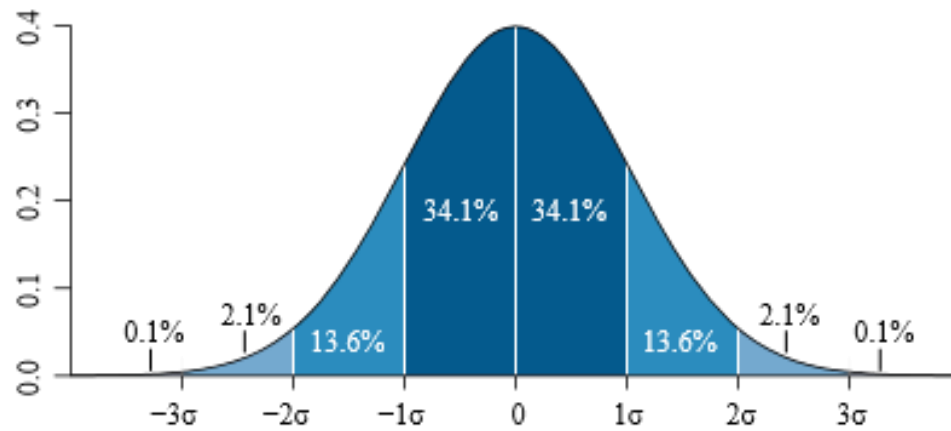
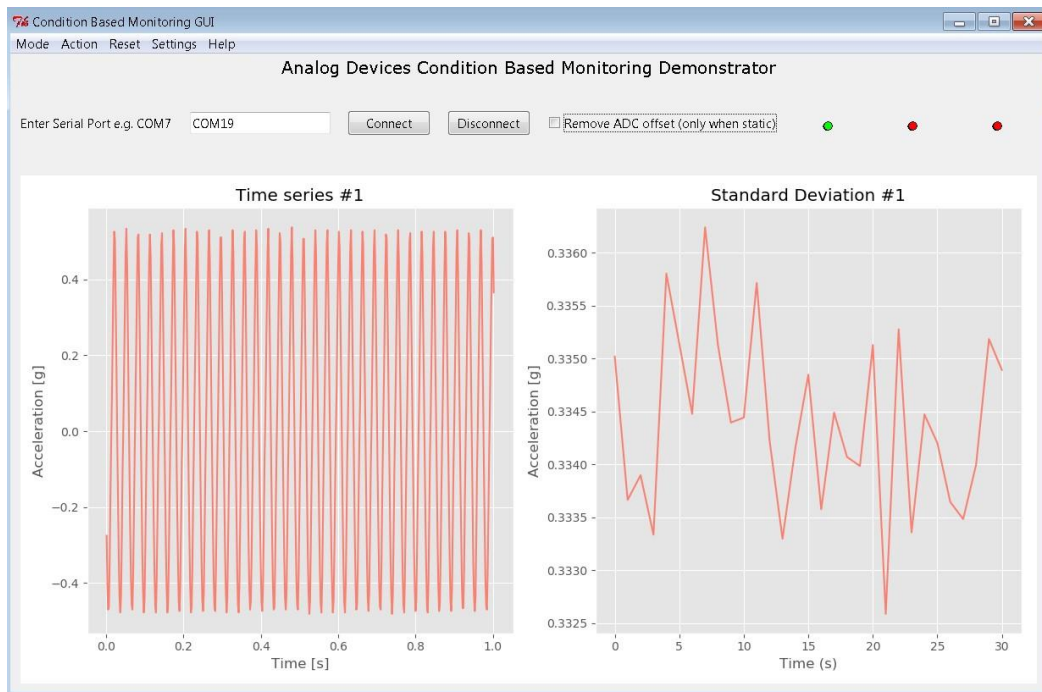

Figure 6: Standard Deviation for Normal Distribution [2]
Figure 7: Standard Deviation
**PDF** – Probability Density Function. A function of a continuous random variable whose value at any given point can be interpreted as providing a relative likelihood that the value would equal that sample. Useful visualisation of the spread of time series data values – also necessary to describe the effects of kurtosis and skew factor on the data. See Figure 6.
Plot shown	<p>Figure 6 describes the relationship between standard deviation in the normal distribution and the percentage of data contained within each section. This gives an approximation of the percentage of data contained within 1, 2 and 3 standard deviations.</p> <p>Figure 7 is a typical example of standard deviations taken from an unbalanced motor rotating at 2000 RPM. See “Typical Values” for relevance.</p>
Note: The standard deviation values shown in Fig.7 correspond to the width of the  $\sigma$  intervals in Fig.6. A larger value of standard deviation would indicate a data distribution with values which are more spread out from the mean.